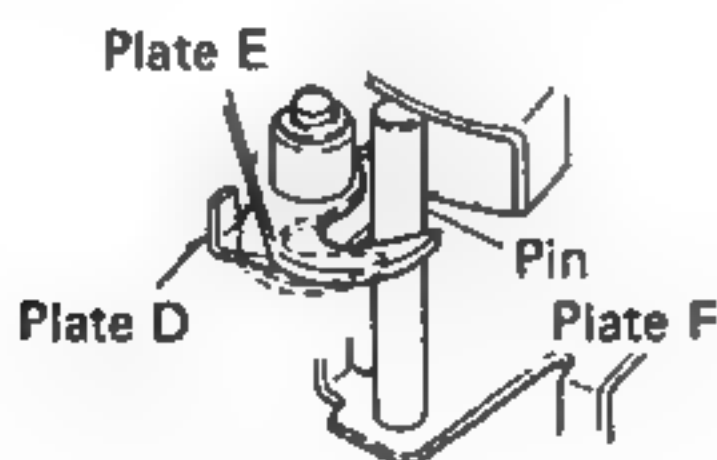

Fig. 3
5. Plate E on plate D engages with pin of plate F (Fig. 3).